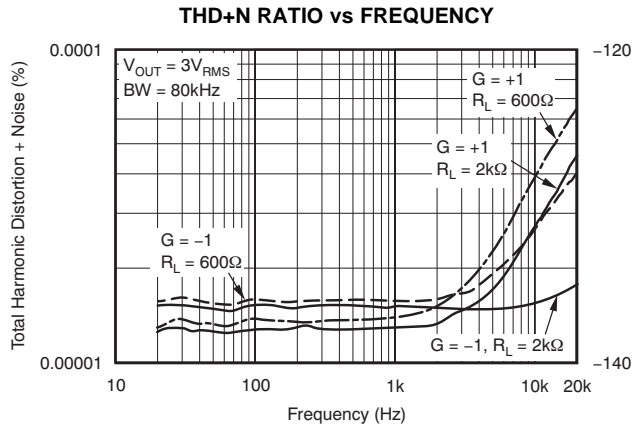
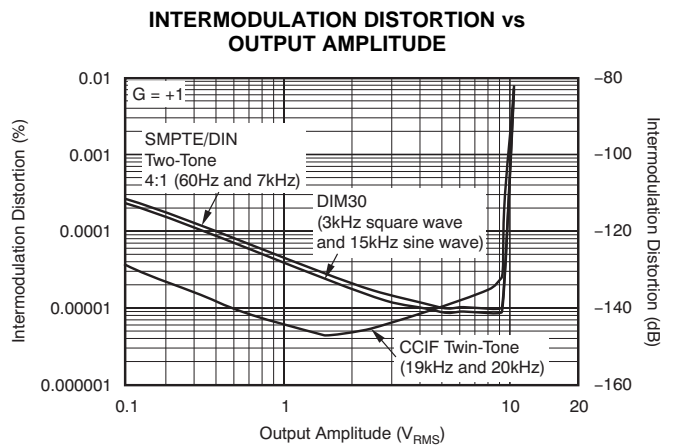

Figure 7.
Figure 12.
The OPA161x series op amps have excellent distortion characteristics. THD + Noise is below 0.00008% ($G = +1$, $V_O = 3V_{RMS}$, $BW = 80kHz$) throughout the audio frequency range, 20Hz to 20kHz, with a 2kΩ load (see Figure 7 for characteristic performance).
(1) For measurement bandwidth, see Figure 7 through Figure 12.